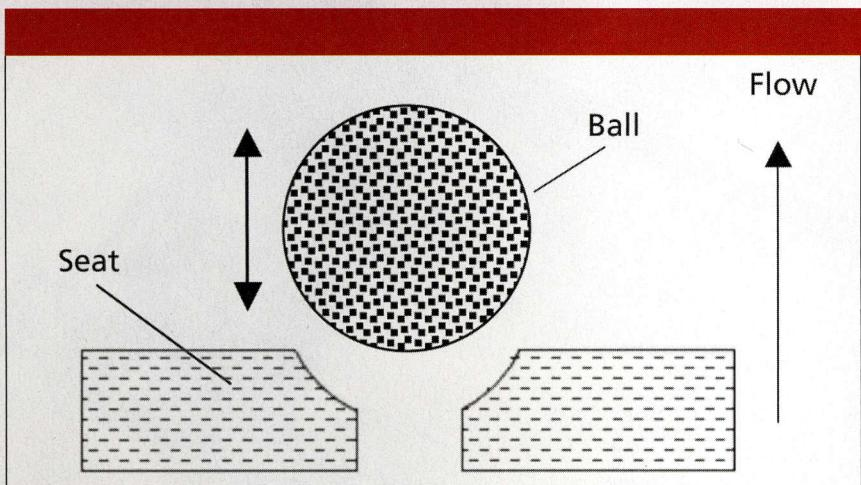

Figure 1: Ball-type check valve.
The most common check-valve design for LC systems is the ball-type check valve shown in Figure 1. This comprises a ruby ball and sapphire seat. Ruby and sapphire are both crystalline forms of alumina oxide known for hardness, inertness, and the ability to be machined into durable components. The check valve operates quite simply. When the pressure below the ball is higher than that above the ball, the ball is lifted off the seat and liquid can flow through it (bottom to top in Figure 1). When the pressure above the ball is higher, the valve closes, preventing any
patents, I have learned a few details about the manufacturing process. The ruby balls are very close to perfectly spherical — the deviations from a perfect sphere are measured in fractions of micro-inches! The sapphire seats are then ground as shown in Figure 1 to have a spherical radius that matches the ball. The sealing surface is quite small: for example, in one patent (3), the sealing surface is 0.03 mm wide for a 1.5-mm diameter ball. There are additional modifications of this design to improve sealing and aid in proper seating of the ball. One manufacturer described their manufacturing process to me, which included assembly in a clean room and pressure testing each check valve to ensure a tight seal. I have long suspected that a clean-room environment was used in assembly — certainly cleaner conditions than any analytical laboratory I have ever seen. This sheds light on the difficulty many users have when trying to rebuild check valves, because it only takes one tiny bit of dust to keep the check valve from sealing. So if you do attempt to rebuild check valves, take extra care to work under the cleanest conditions possible.